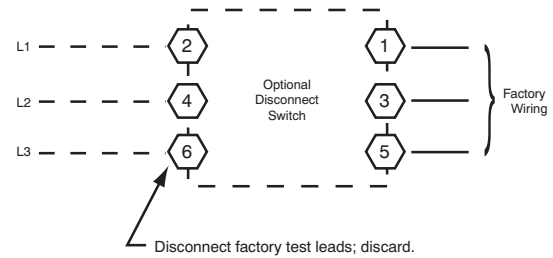

Fig. 22 - Power Wiring Connections
Field power wires are connected to the unit at line-side pressure lugs on compressor contactor C and indoor fan contactor IFC (see wiring diagram label for control box component arrangement) or at factory-installed option non-fused disconnect switch. Max wire size is #2 AWG (copper only). (See Fig. 22.)
The factory-installed option disconnect switch is located in a weatherproof enclosure located under the main control box. The manual switch handle is accessible through an opening in the access panel. Discard the factory test leads (see Fig. 22).
All field wiring must comply with NEC and all local codes. Size wire based on MCA (Minimum Circuit Amps) on the unit informative plate. See Fig. 22 and the unit label diagram for power wiring connections to the unit power terminal blocks and equipment ground. Maximum wire size is #2 ga AWG per pole.
2. Install power lines to terminal connections as shown in Fig. 22.